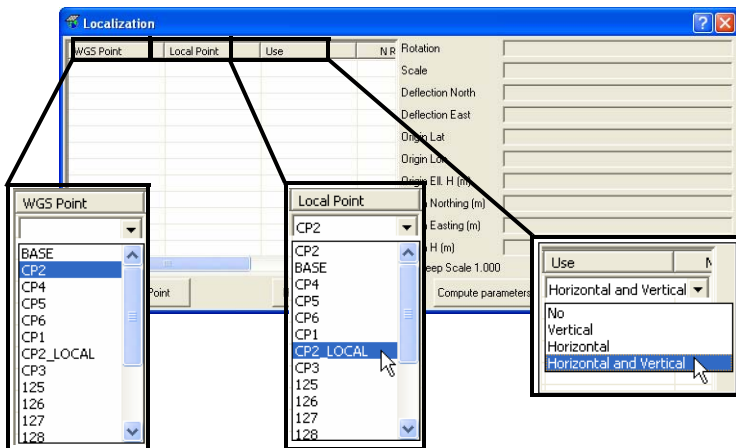

Figure 6-43. Select WGS, Local Point, and Use Data
- Select the following information (Figure 6-43):